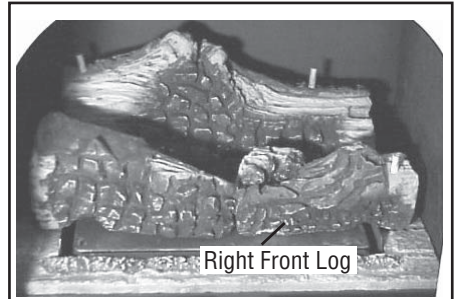

Figure 13
5. Install the right front log onto the corresponding burner pin and sub-floor right tab as shown in figure 13.